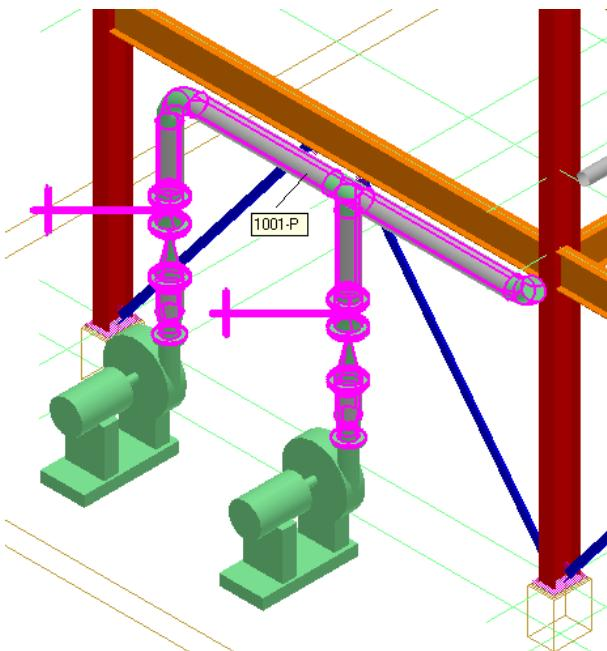

Figure 22: Select Pipe Parts in Pipeline 1001-P
24. Use the **Inside fence** option on the **Common** toolbar to select all piping parts belonging to the pipeline **1001-P** and select the piping parts, as shown in Figure 22.